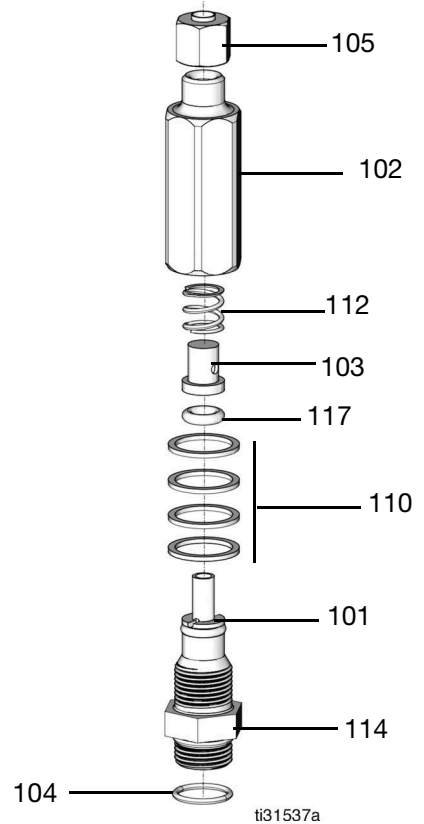

FIG. 40
Grease injectors are used to provide precise lubrication to each grease point in the system. If an injector is not producing the correct amount of lubricant for a specific location on the vehicle or if a replacement injector of correct size is not available, output spacer washers (110) can be installed to adjust the injector's output volume (FIG. 40, page 47).
- Use a 5/8 inch wrench to loosen and separate the injector body (102) from the valve assembly (114). Be careful not to misplace or damage the spring (112), retainer cap (103) and o-ring (117) (FIG. 40, page 47).
- Add spacers (110) to increase output volume.
- Remove spacers (110) to decrease output volume.
- Reassemble injector valve assembly. Be sure all parts removed during disassembly are reinstalled in the correct order as shown in FIG. 40 (page 47). Use a 5/8" wrench to tighten using only enough force to seat output spacers firmly (110). Torque to 8 ft-lb +/- 2 (10.8 +/- 2.7 N•m).
- Install injector (101) onto manifold (119/120). Slide a deep well socket over the injector and aligned with the hex nut flats (114) (FIG. 40, page 47). Torque to 8 ft-lb +/- 2 (10.8 +/- 2.7 N•m).